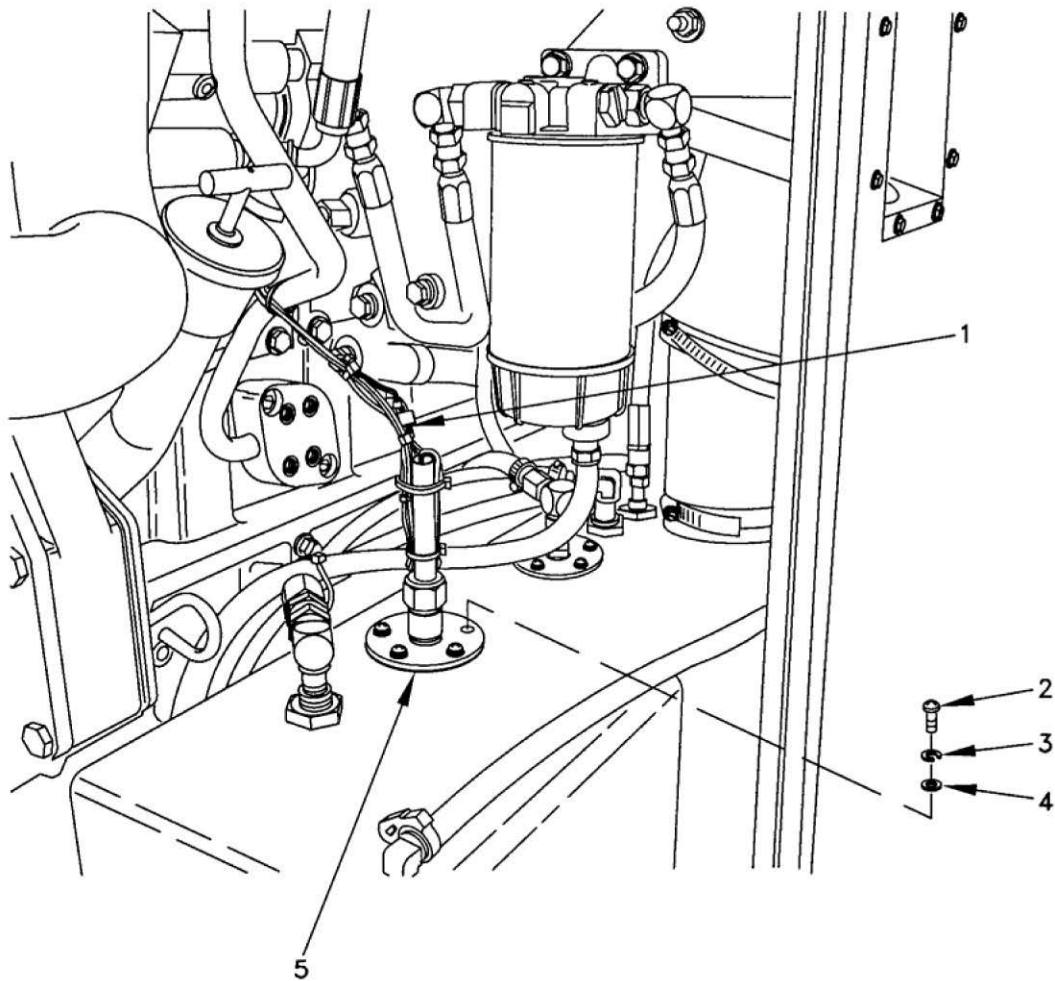

Figure 1. Fuel Level Switch Assembly.
3. Tag and disconnect wires from fuel level switch (Figure 1, Item 1).
4. Remove five screws (Figure 1, Item 2), lock washers (Figure 1, Item 3), washers (Figure 1, Item 4), fuel level switch assembly (Figure 1, Item 1), and gasket (Figure 1, Item 5).
1. Apply sealing compound to both sides of gasket (Figure 1, Item 5) and install gasket, fuel level switch assembly (Figure 1, Item 1), five washers (Figure 1, Item 4), lock washers (Figure 1, Item 3), and screws (Figure 1, Item 2).
2. Remove tags and connect wires from fuel level switch (Figure 1, Item 1).